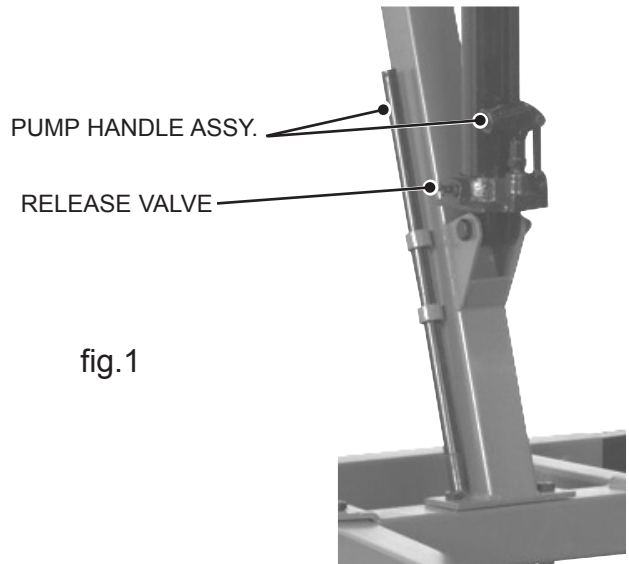

fig.1
- e) For control system, see Fig.1 for release valve and pump handle assy. Usage is explained in Section 3.2 Operation.